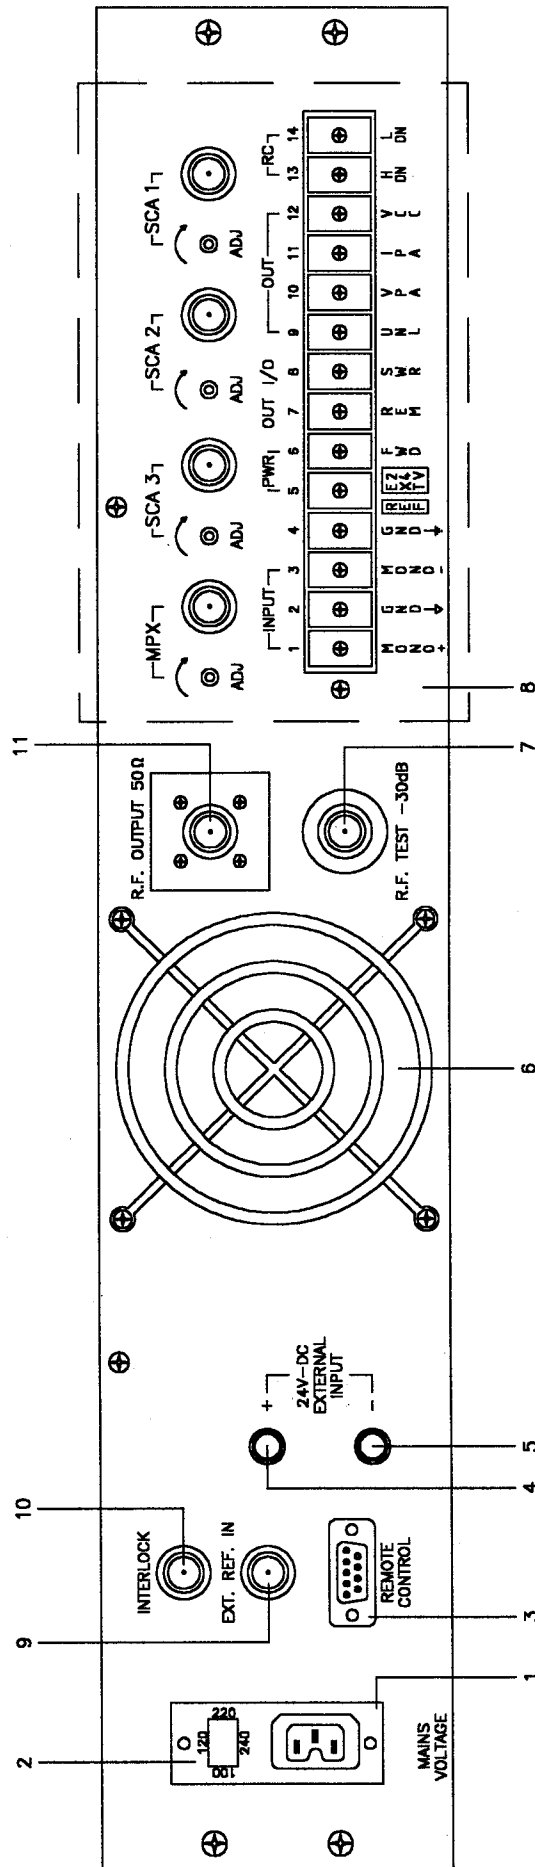

FIG. 2
**REAR PANEL VIEW DESCRIPTION (Fig.2)**
First of all select the correct supply voltage using the selector situated on the rear panel; use a screwdriver to raise the cover (2 Fig.2) on which are written the various voltages, rotate it until the arrow points ti the correct voltage and re-insert it.
- 2) Connect a 30dB attenuator between the R.F. Output connector (5 Fig.2) and Power Meter (see SETUP 1 Fig.5).
- 3) Connect a switch, via cable, to the INTERLOCK connector (10 Fig.2) on the rear panel so that the switch is able to short the central conductor to its screen.
- 5) Connect power to the unit via the VDE socket (1 Fig.2).